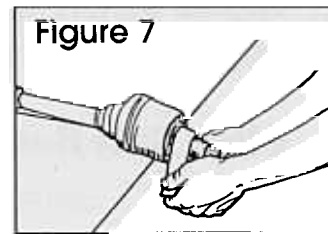
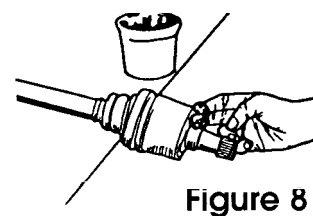

Figure 7
Figure 8
5. Sand the seal surface (**Figure 7**), and apply a generous amount of assembly lube or axle grease (**Figure 8**).